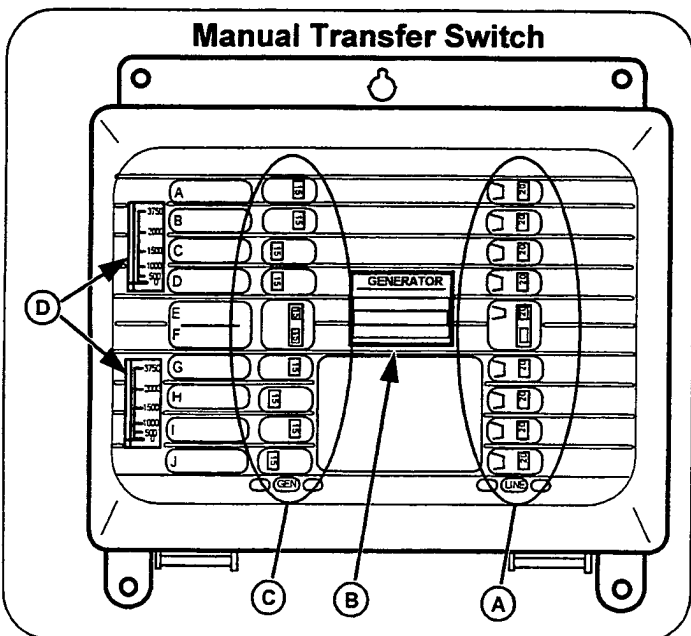

Figure 2. Manual Transfer Switch Controls (10 Circuit Model Shown)
3. Place ALL of the utility "LINE" circuit breakers (A) in the OFF position. Refer to Figure 2.
4. Move the selection switch (B) from the utility LINE setting to the GENERATOR setting.